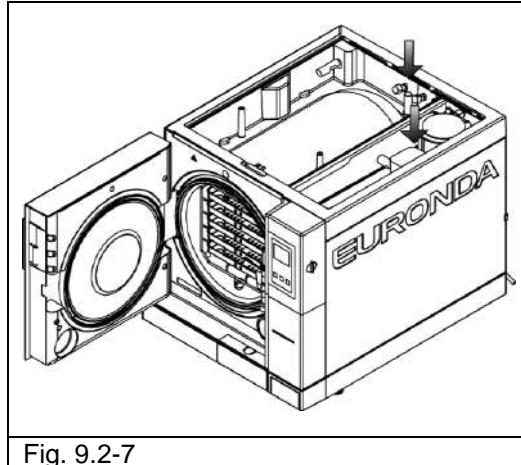

Fig. 9.2-7
6. Remove the filters of the clean and dirty water tank (Fig. 9.2-7), rinse away any deposits under running water and then reinstall them in the tank, taking care to position them correctly.